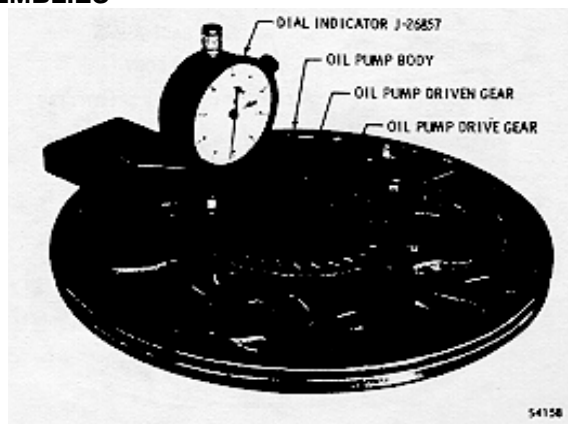

Fig. 6-34. Dial indicator check of oil pump driven gear end clearance
(12) Without disturbing the dial setting, slide the indicator to the driven gear (fig. 6-34). While holding the indicator in position, rotate the gear 360° and record the reading. Move the indicator 90° and record the second dial reading. Repeat the procedure and record the dial readings at each 90° point until four readings have been taken. If the clearance is not within 0.008-0.0022 in. (0.020-0.056 mm) on new gears or 0.0008-0.0026 in. (0.020-0.066 mm) on used gears, replace the gear and repeat steps (11) and (12).